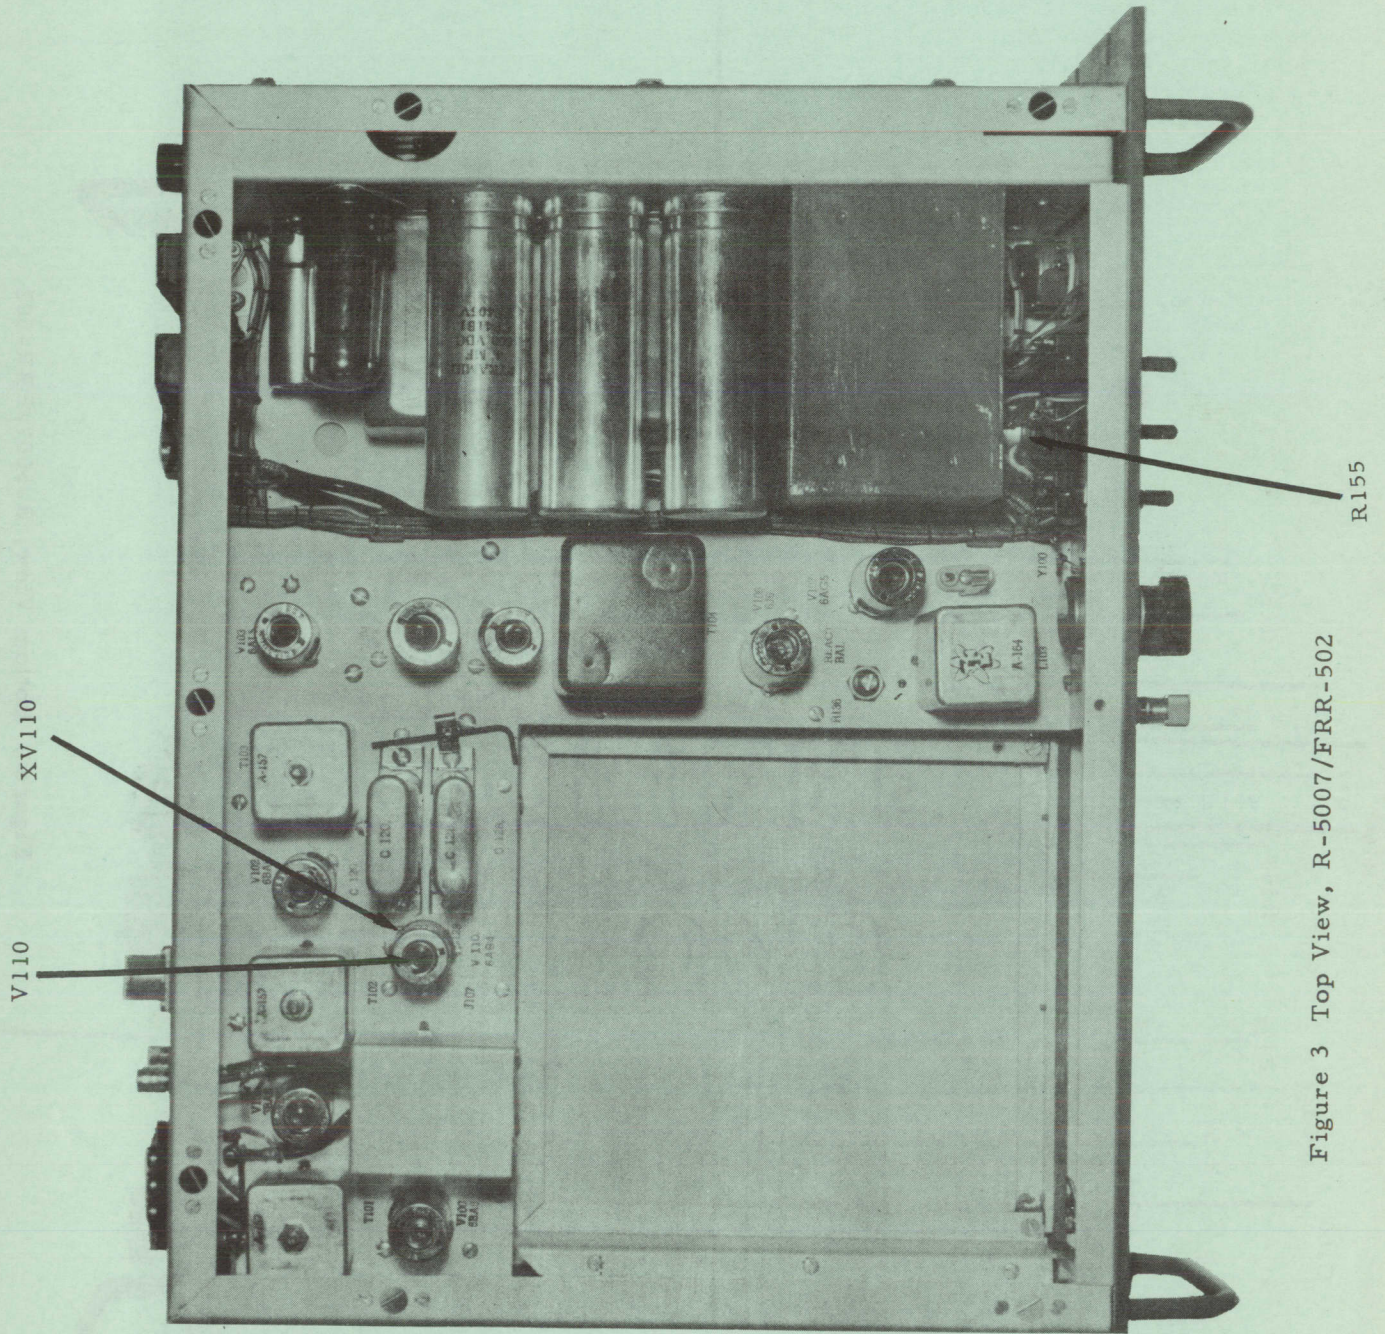

Figure 3 Top View, R-5007/FRR-502
- Figure 3 Top View, R-5007/FRR-502